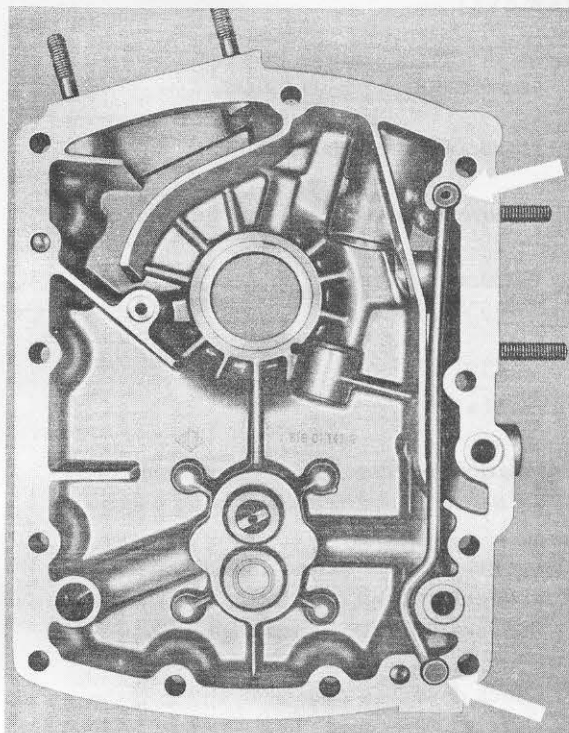

Fig. 154
3. Place one rubber plug on each end of the counter pressure oil line and install in the timing gear cover so that the open end of the upper plug faces the crankcase while the open end of the lower plug is inside the timing gear cover (see Fig. 154).